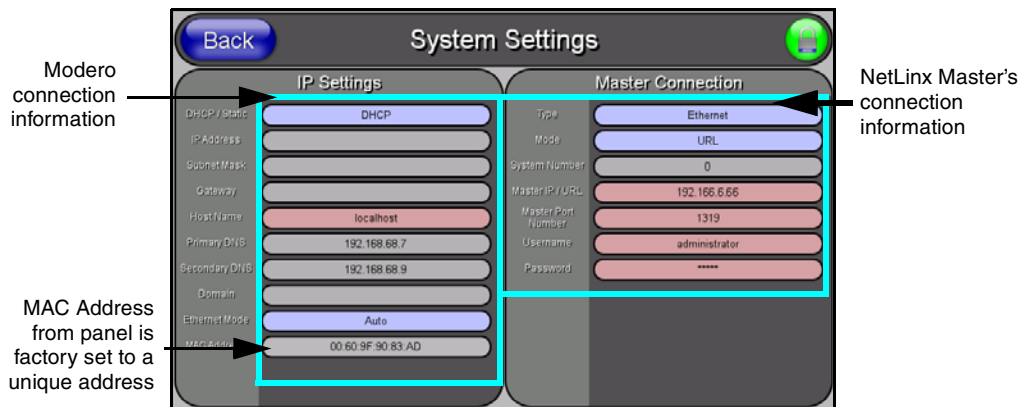

FIG. 51 System Settings page
11. Press the **System Settings** button (located on the Protected Setup page) to open the System Settings page (FIG. 51) and begin configuring the communication settings on the panel to match those of the target Master.